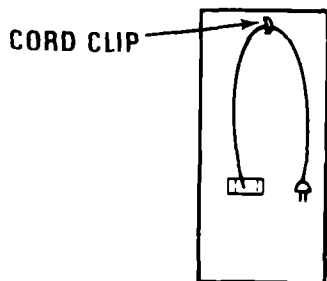

FIGURE 11
3. Be sure the cord clip on the cord is attached to the clip to the rear of the cabinet as shown in Figure 11.